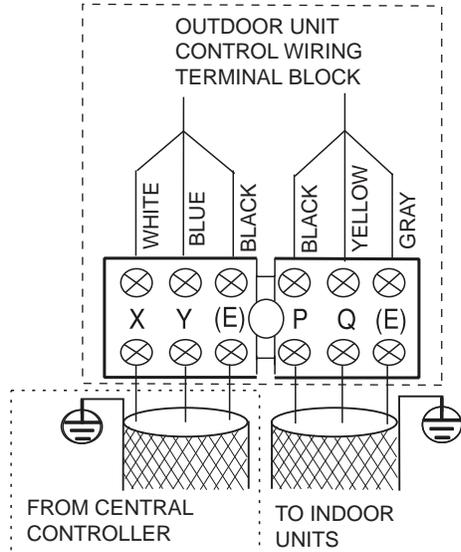

Fig. 1 — Control Wiring Terminal Block
- Connect one end of the shielded 3-core control cable to the control wiring terminal block on the outdoor unit. See Fig. 1.